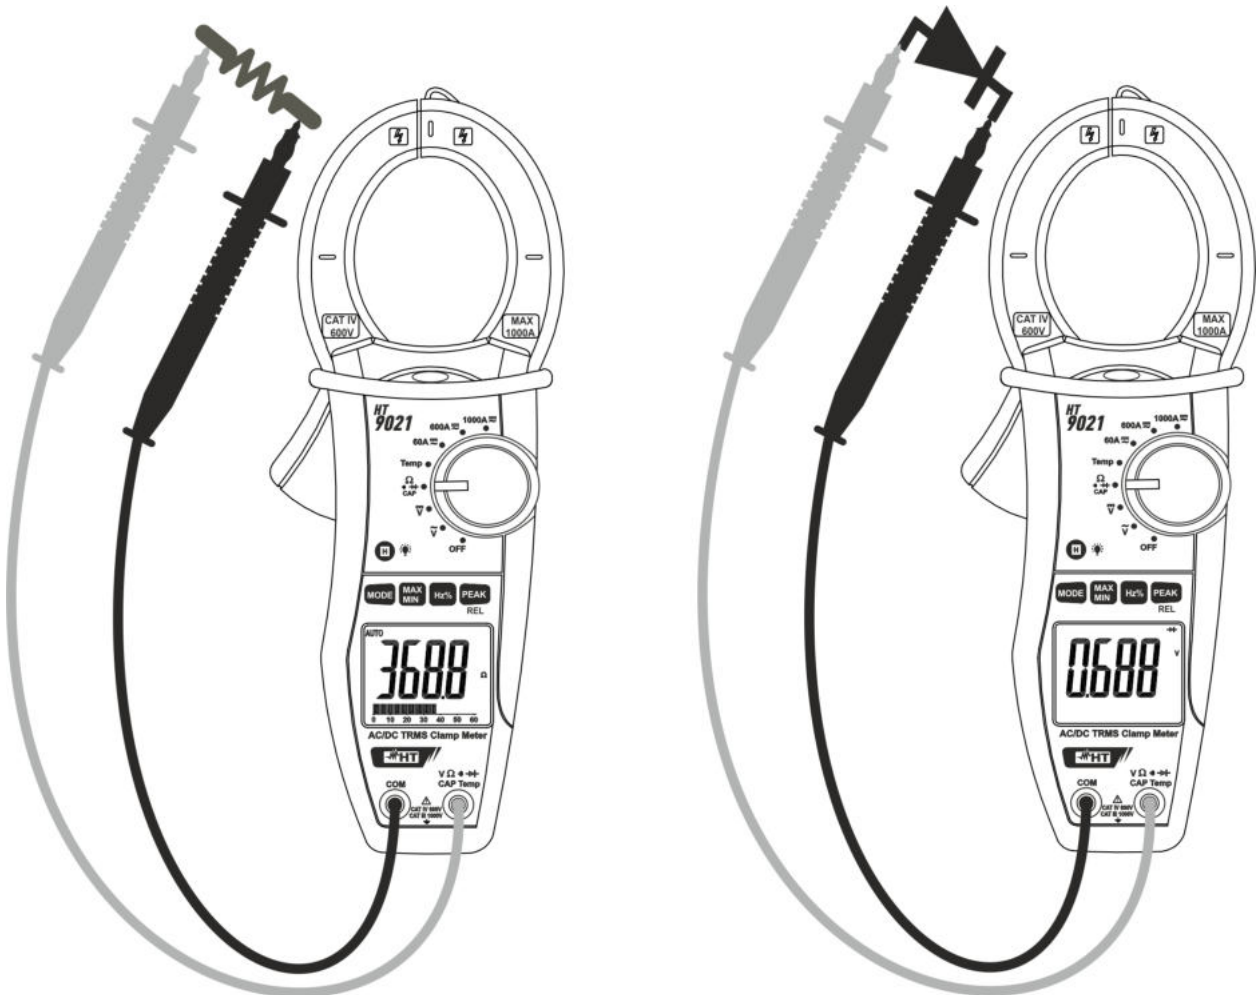

Fig. 6: Taking Continuity test and Diode test
3. Insert the red test lead plug into **VΩ**  $\rightarrow \rightarrow \rightarrow$  **CAP Temp** jack and the black test lead plug into **COM** jack and perform continuity test on the object under test (see Fig. 6 – left side). Buzzer emits sound if the measured resistance value is less about 60Ω
5. Connect the red test leads to the anode of diode on test and the black test lead on the cathode ones (see Fig. 6 – right side). Reverse position of test leads to reading reverse polarization voltage